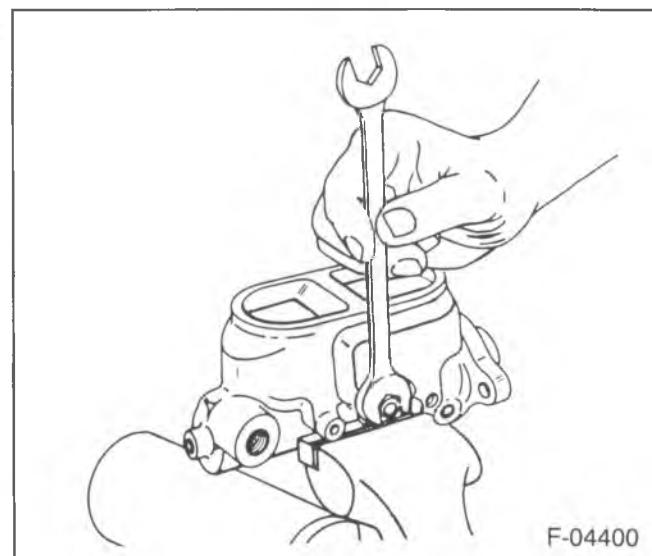

Figure 18—Installing Tube Seats
- Seat the tube seats with a spare brake tube nut (figure 18).